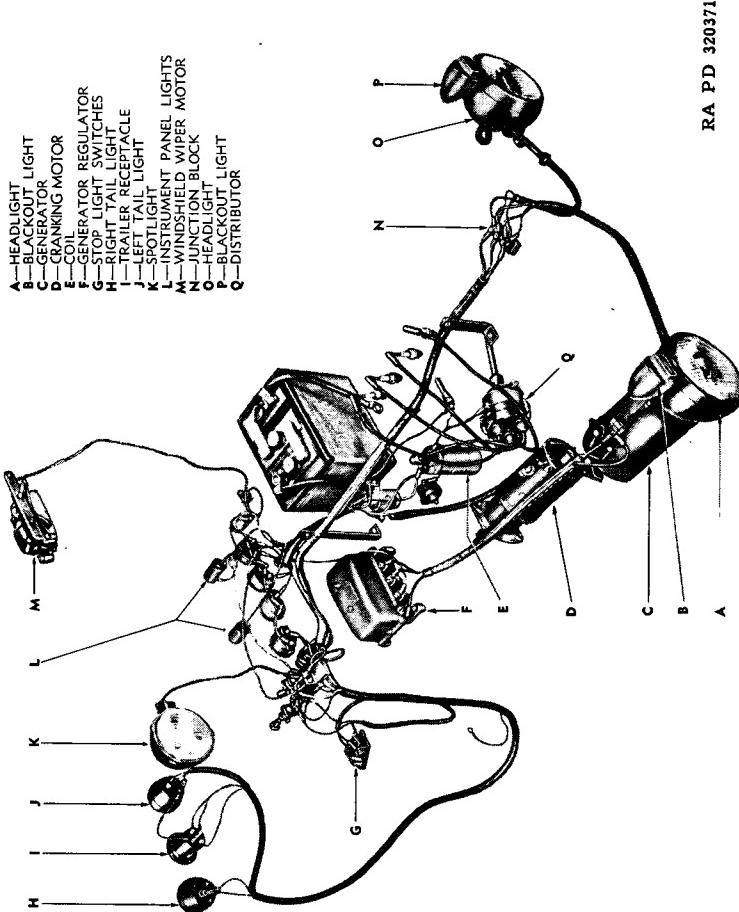

Figure 3 — Photo Wiring Diagram
a. General (fig. 3). The electrical system of the vehicle includes the battery (6-v), generator, generator regulator, engine cranking motor, lights, light switches, engine cranking motor switches, windshield wiper motor, trailer outlet receptacle, and the necessary wires and cables for operation of the electrical units. Maintenance of only the windshield wiper motor is covered in this manual.